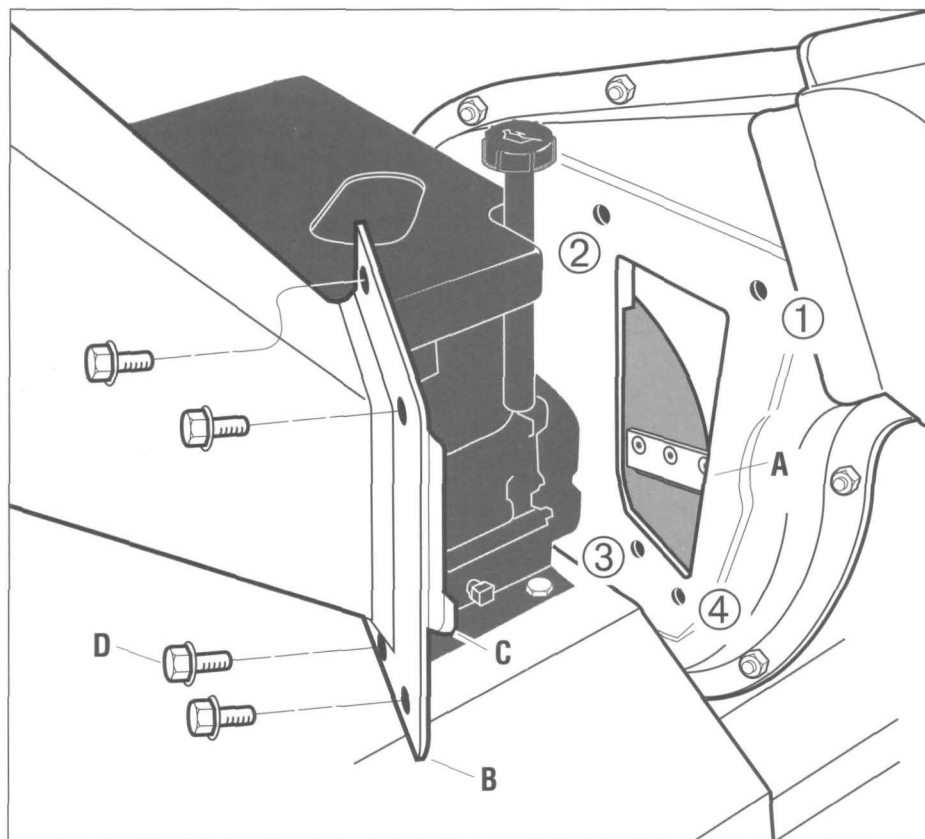

Figure 2-6: Installation of Chipper Chute.
**A.** In the following steps, do not touch the chipper cutting blade (A, Figure 2-6) that is located inside the chute mounting hole (the blade may not be visible due to its shipping position on the rotor assembly.) The blade is **very sharp** and can cause personal injury.
**B.** For shipping purposes, two hex head screws are installed in the holes labeled No. 1 and 4 in Figure 2-6. With a 1/2" wrench, remove the two screws and throw them away. **They are not for reuse on the machine.**
**C.** With the **long** end of the chipper chute mounting flange (B) pointing down, tilt the top of the chute slightly away from the machine and slide the chute lip (C) into the chute mounting hole. It may be easier if someone helps support the chute while you install the four screws.
**E.** On all models, align the four holes in the mounting flange with the four holes in the machine housing. Using your fingers, **loosely** install four 5/16"-18 x 5/8" flange lock hex head screws (D), following the numbered sequence shown in Figure 2-6. After all four screws are in place, tighten them securely with a 1/2" wrench.